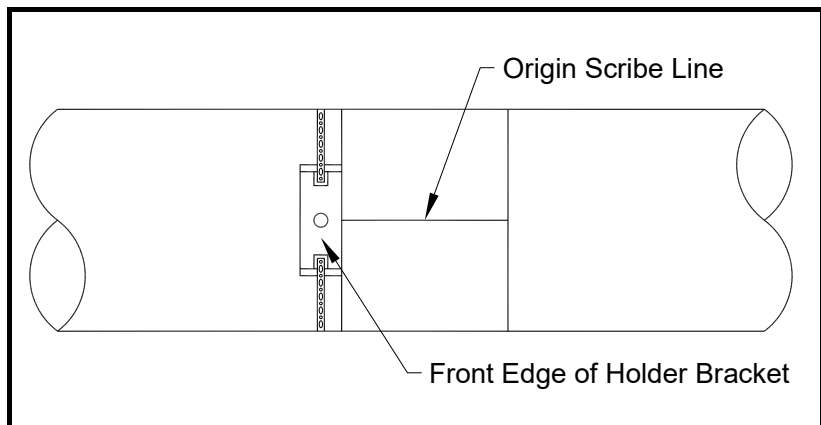
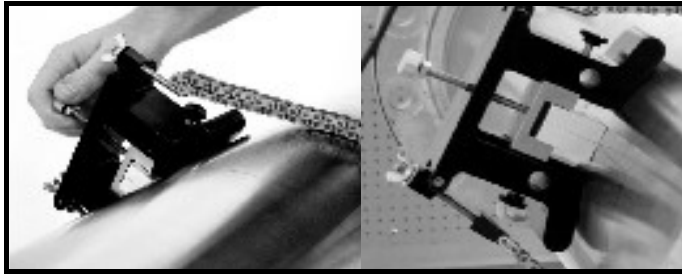

Figure 1-16: Lining up the First Bracket
Figure 1-17: Positioning the CFG-PI Holder Bracket
3. Line up one edge of the CFG-PI holder bracket with the origin scribe line and fully tighten the chain or strap (see Figure 1-16 and Figure 1-17 below).
4. Install the transducer dummy block to verify the circumferential and axial location. Center the indicator line on the block to line up with the scribed mark (see Figure 1-17 below).